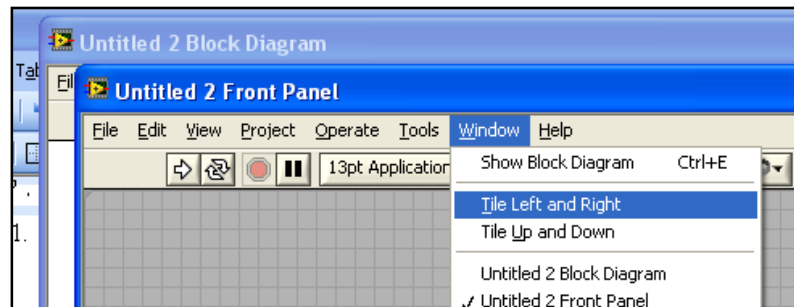

Figure 2. The “Front Panel” and “Block Diagram” windows.
2. Two windows will appear: a) the **Front Panel** and b) the **Block Diagram**. (You could tile both windows side-by-side by selecting [**Window**]->[**Tile Left and Right**] menu item as shown in Figure 2).